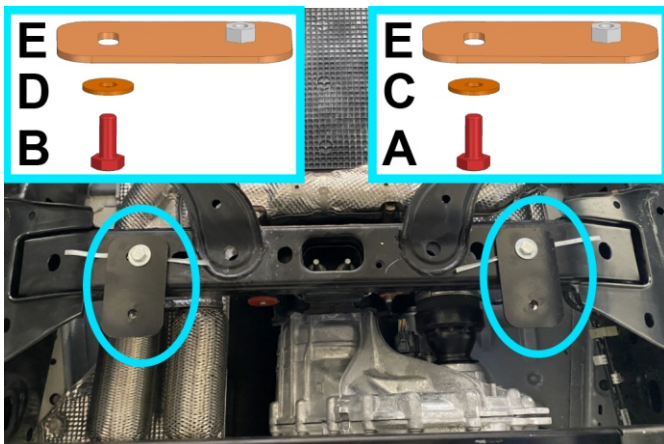

Fig. 9
6. Secure brackets (item E) to the previously installed insert nuts M10 (item F) from step 3 using M10x1.5x30 bolts (item A) and M10 washers (item C) as shown in fig.9. If there is a factory threaded hole on the passenger side use M12x1.75x30 bolt (item B) with washer M12 (item D). Ensure welded nuts on the brackets are facing up.